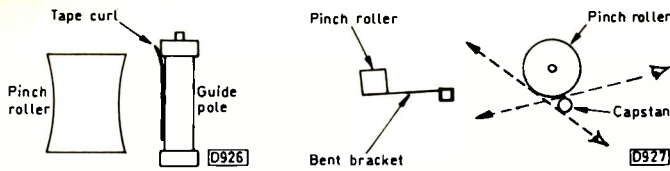

Fig. 3 (left): A concave pinch roller can cause creasing at the top or bottom edge of the tape. A hardened pinch roller can have the same effect.
When the roller is worn the tape will ride up or down the capstan because of the uneven pressure (see Fig. 3). This in turn causes tape curling at the exit guide. One or more of the following symptoms will be present: (1) tape edge creasing, with permanent damage; (2) loss of the CTL pulses, the result being intermittent noise bars; (3) poor h.f. audio response because of poor head/tape contact.
The tape curl shown in Fig. 3 is best observed by looking
The way in which the roller deteriorates depends on the composition of the rubber. This varies with different manufacturers. The wear illustrated in Fig. 3 is easy to detect by checking the pinch roller against a straight edge. Roller replacement is not a major job. Alternatively the rubber may become hard – often shiny – the result being poor tape transport. You can get the same symptoms as with a concave roller.